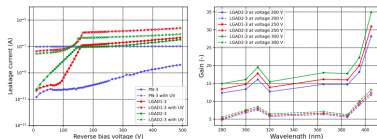

Figure 5. Response to UV light: Leakage current of the sensors measured for the wavelength of 277 nm (left) and gain as a function of wavelength (right).
- ▶ Figure 5 connects leakage-current response and gain under UV illumination.